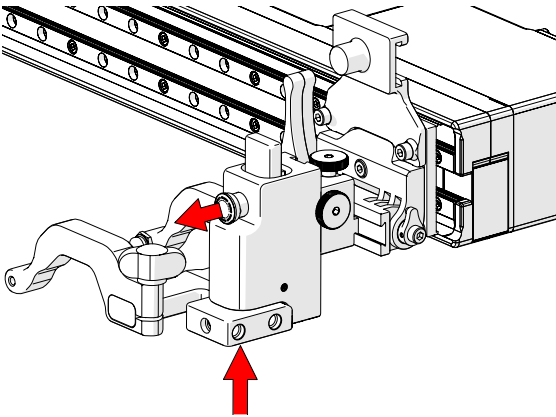
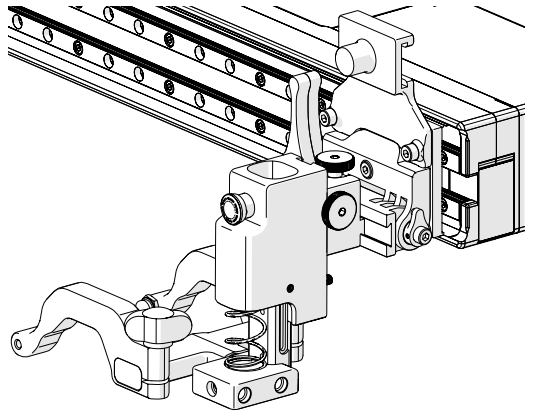

Fig. 117 - Press up and pull latch
Fig. 118 - Lowered toward scan surface
1. Gently lift the heavy duty vertical probe holder and simultaneously pull the latch (Fig. 117). This action will unlock the probe holder. Slowly lower the probe holder towards the scan surface (Fig. 118).